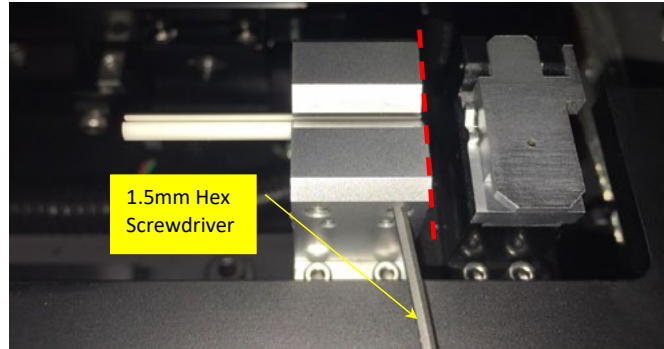

Figure 5.4.3
- (2) Replace the ceramic tube with a new one (Fig. 5.4.3). During tube installation, make sure that (a) the outer side of the tube is aligned to the outer side of the fixture (see the red dash line), and (b) the opening of the C-shape tube is facing up.